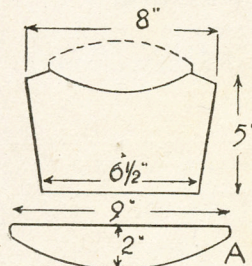

Fig. 1—End shapes
The ends are shown at Fig. 1. These can be easily set out direct to the wood, without drawing a pattern beforehand. Cut a rectangle 5in. by 8in. for the front end, trim the ends to slope inwards, cut off the top corners, and saw the remainder of the top edge to a concave curve. The rear end is cut $1\frac{1}{2}$ in. wider ($6\frac{1}{2}$ in.) and is of similar shape to the other with the exception that the top edge is sawn to a convex curve, as shown by the dotted lines.
shown at (A) in Fig. 1. The bottom curve should be a smooth one, and can be struck with an improvised compass if a better tool is not available. The usual makeshift of a nail and length of string, with a pencil tied to the string, will serve all right for a job of this kind.